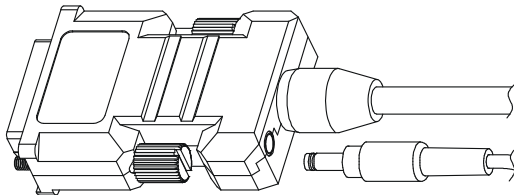

Figure 2: Optical All-Fiber DVI Cable – Receiver Module
2. Connect an AC/DC power adapter to the receiver module (see Figure 2)